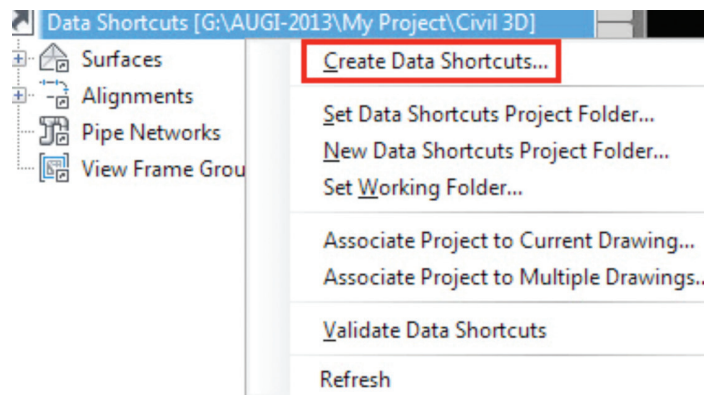

Figure 5: Create Data Shortcuts
Next we are going to create the shortcuts within our existing drawing so they can be used across the design project. In Prospector, right-click on your data shortcut folder and select Create Data Shortcuts as shown in Figure 5. We are using an existing drawing, which contains a surface (EG) and two alignments, cross sections A and B.